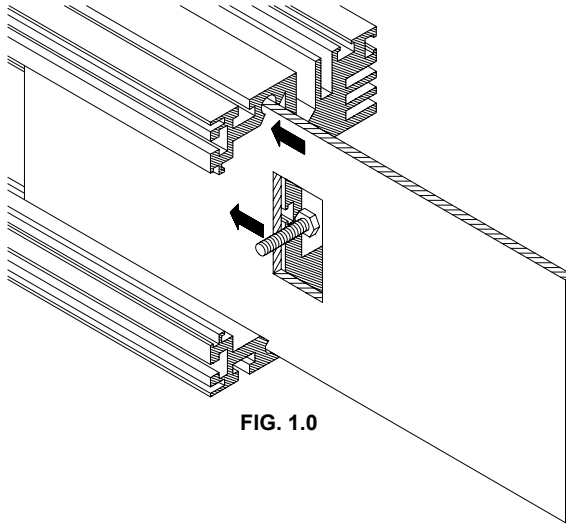

FIG. 1.0
- ❑ Slide the PCB in the largest slot of the heat sink. (See fig. 1.0)